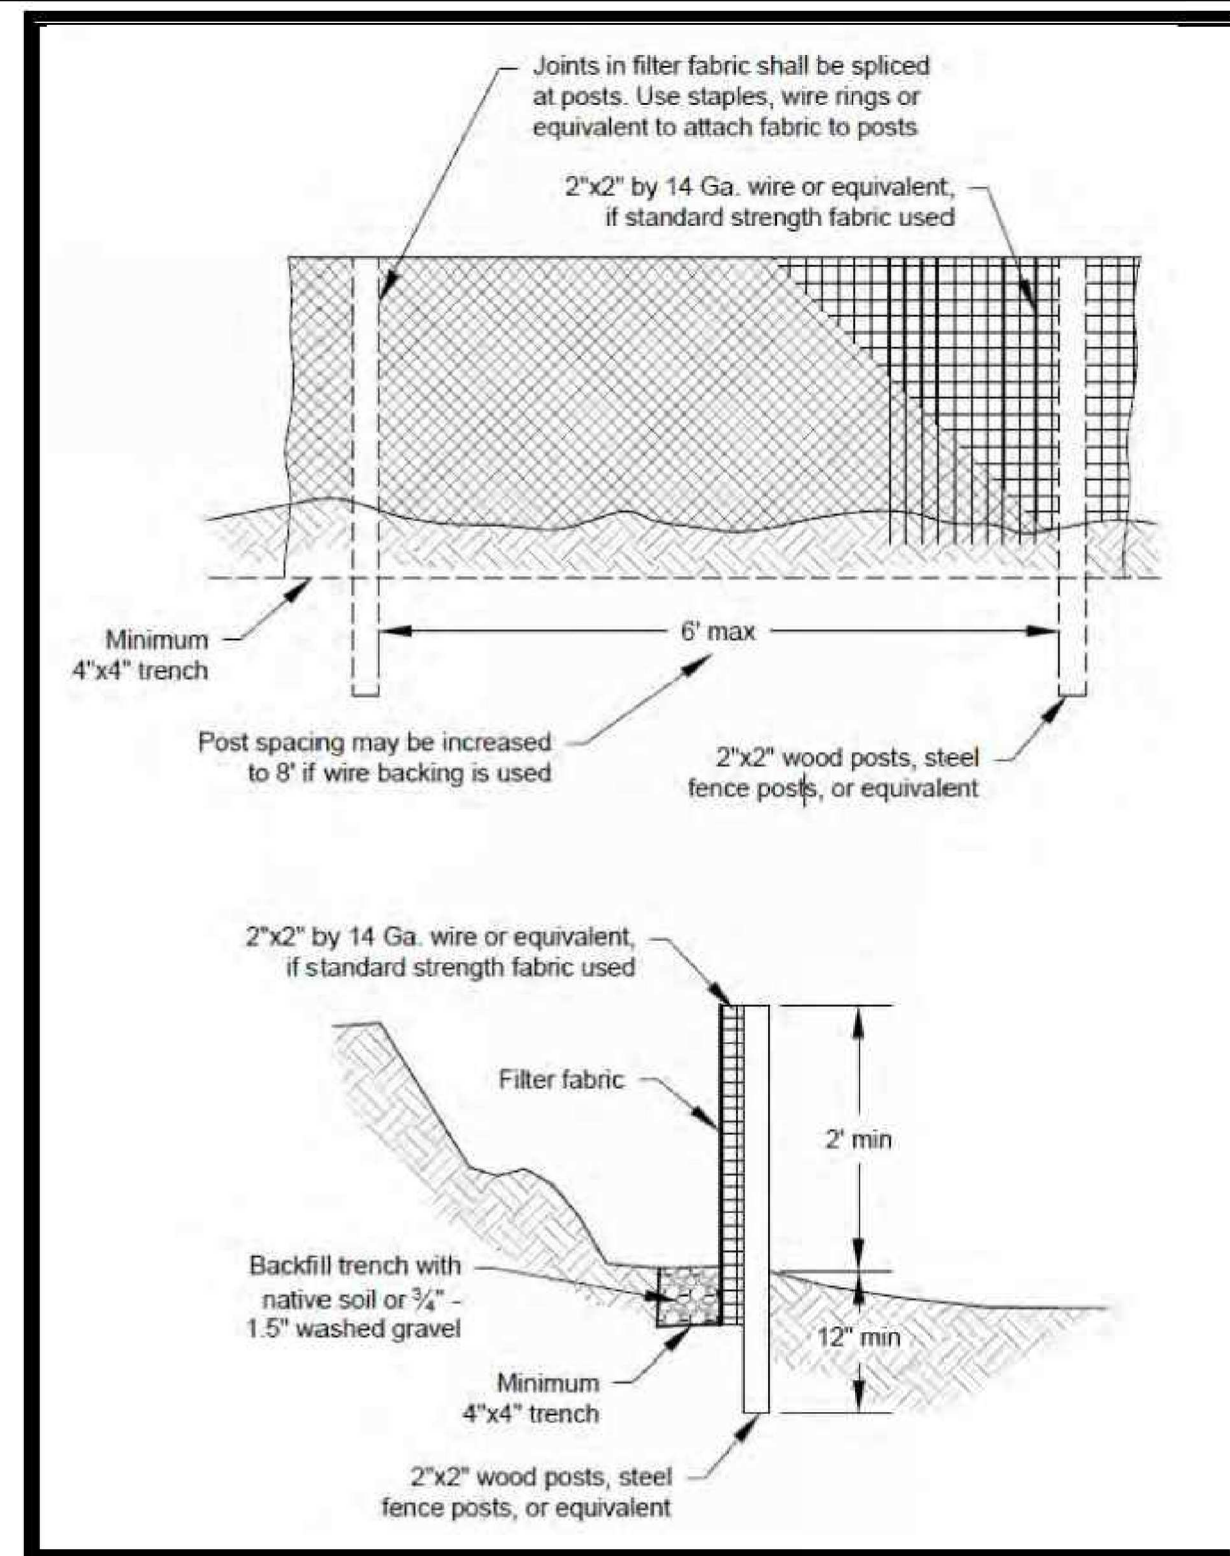

Figure 5.20. Silt Fence.
- 1 HIGH VISIBILITY SILT FENCE PER CITY OF LACEY 2016 STORMWATER MANUAL, BMP FIGURE 5.20, SEE SHT C-2